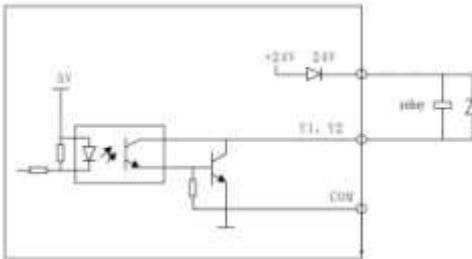

Fig. 3-10 Multifunction output terminal connection
- 1) Multifunction output terminals Y1 and Y2 are adaptable to the 24V power of frequency converter. The wiring method is shown in Fig 3-10.